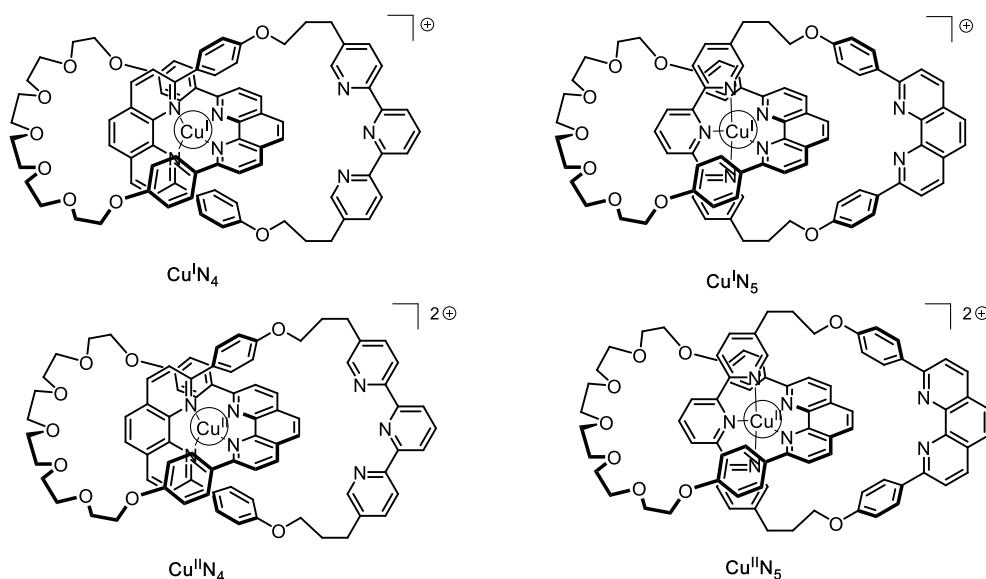

Fig. 2 – [2]catenane **L** states
11. **Fill** in the solid boxes with the designation of the involved complexes in *Fig. 2* and **complete** the sequence to achieve electrochemical control of the system using the following notation for the dashed boxes:  (rotation); $+e^-$; $-e^-$.